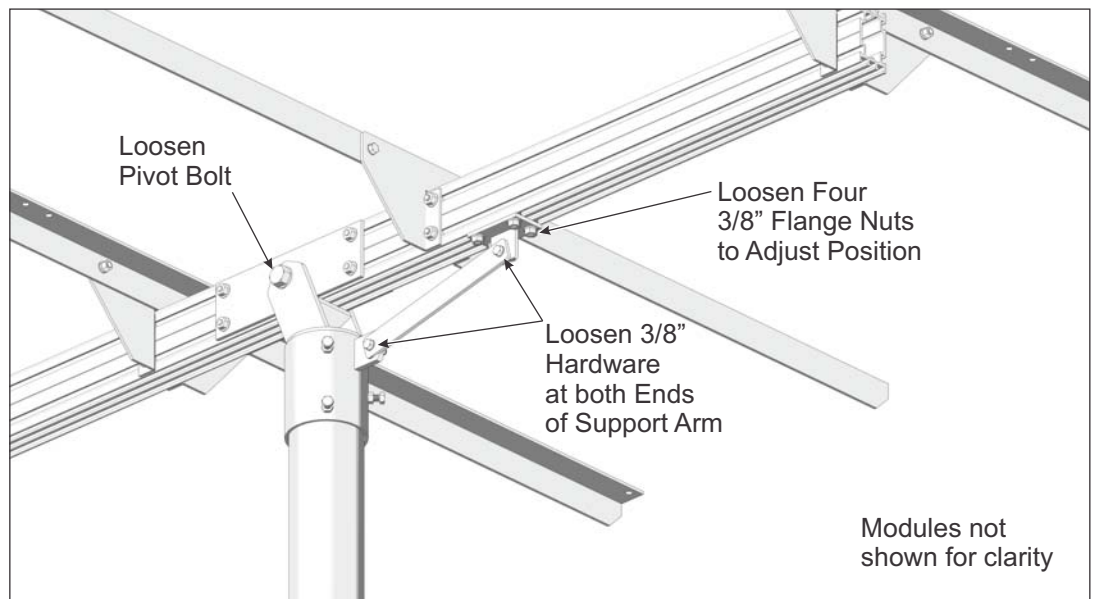

Figure 8-1: Adjusting Tilt Angle
- Tilt the rack to the desired elevation angle and re-tighten the 3/8" Flange Nuts securing the Mounting Tab to the Strongback and the 3/8" hardware at both ends of the Support Bar at the Support Bar Mounting Tab of the Strongback and the Pivot Tab of the Mounting Sleeve **Torque the 3/8" Flange Nuts to 32-34 ft.-lbs. and the 3/8" hardware to 32-34 ft.-lbs.** (See Figure 8-1)